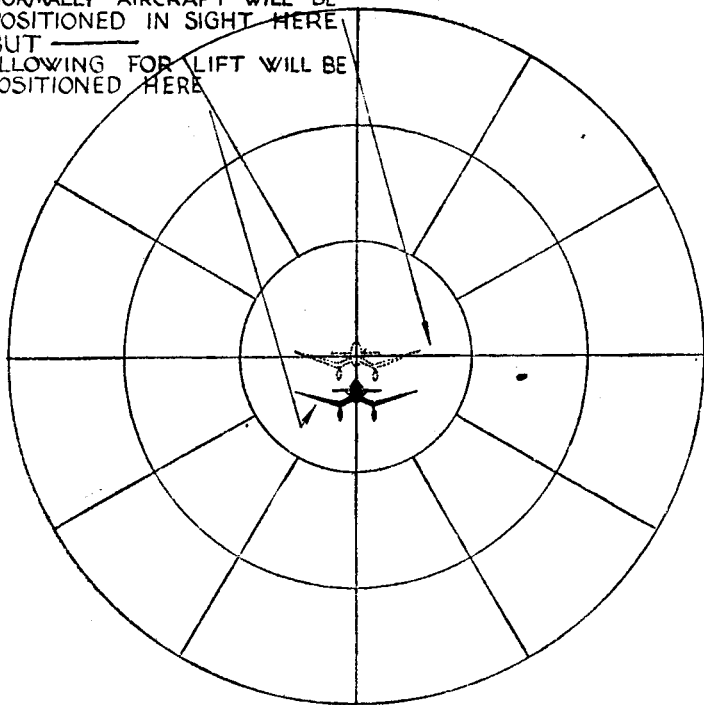

FIG. 12.—Ju. 87B—diving "head-on"—300 speed group.
- (a) *Diving directly at the gun position*—a "head-on" view. (See Fig. 12.)
5. Figs. 12, 13 and 14 illustrate the method of applying this extra allowance for the Ju. 87B. The position of the tail plane in relation to the fuselage should be noted, since it is a useful guide in the case of this aircraft:—